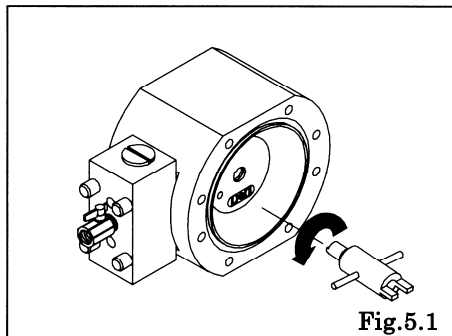

Fig.5.1
- Remove the O rings, pilot valve assembly, and springs. [Fig.5.1]